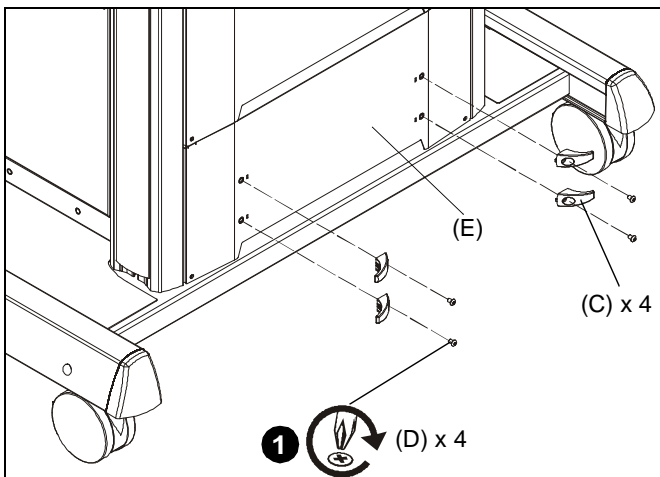

Figure 15
- Use four 1/4-20 x 1/2" Phillips pan machine screws (D) to attach four cable hooks (C) to bottom of cart assembly (E). (See Figure 15)